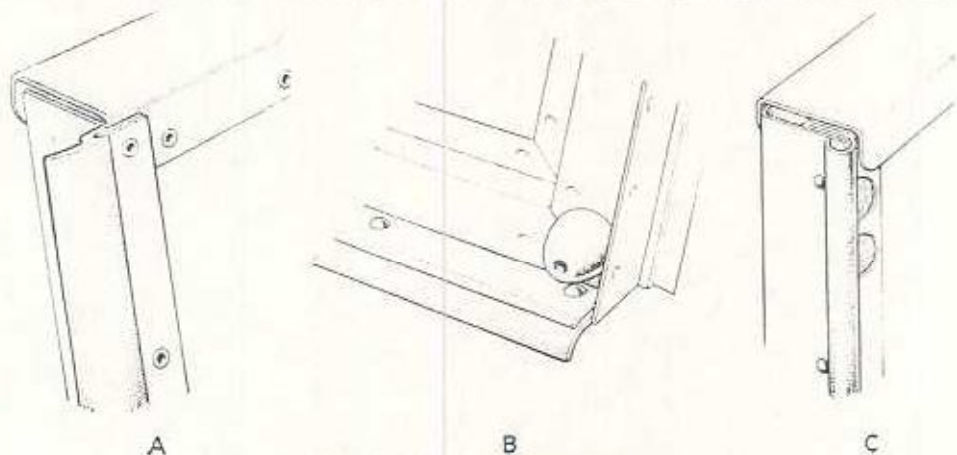

Fig. 1. Dust-proofing doors.
3. Clamp the retainer and strip to the rear edge of the door with the rubber overhanging 1 in. (25 mm.) as shown at Fig. 1 A.